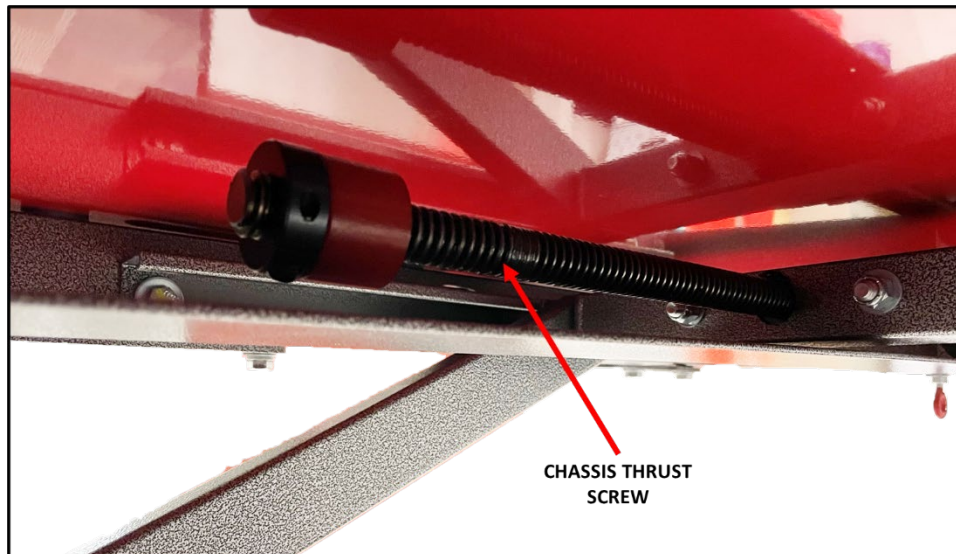

Figure 5. Chassis Thrust Screw
1. Use a wooden cotton swap to apply NLGI Grade 2 Moly Grease to the chassis thrust screw shown in Figure 5.